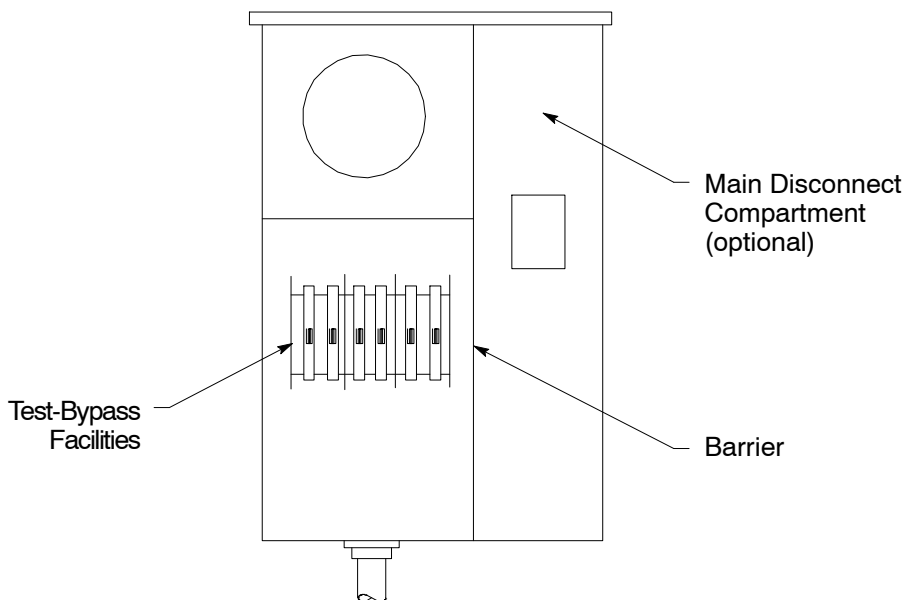

Figure 3
- (1) Typical safety socket meter panel, 0 through 200 amp (see Figure 3 on Page 5).